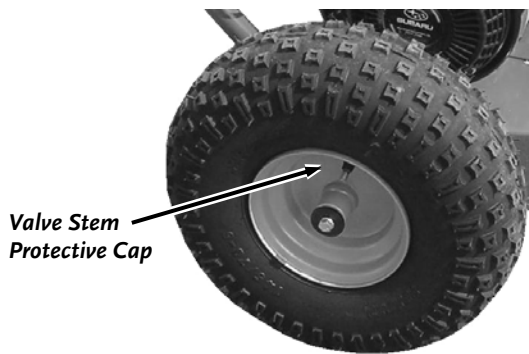

Figure 7
- Remove the Valve Stem Protective Cap (**Figure 7**) and check the tire pressure with a Tire Pressure Gauge.